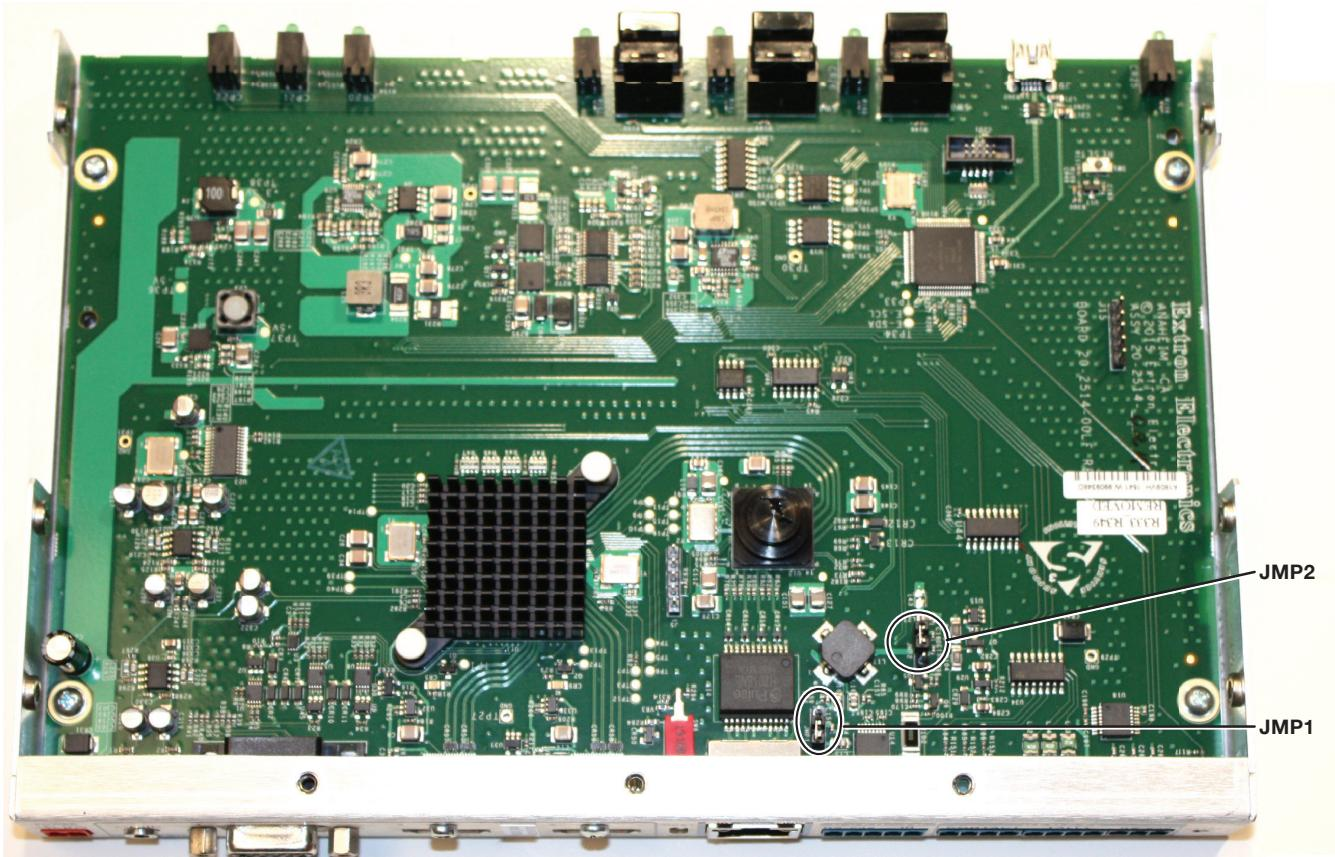

Figure 26. Jumper Locations
3. Locate and **lift off** jumpers JMP1 and JMP2 (see **figure 26** on the next page).